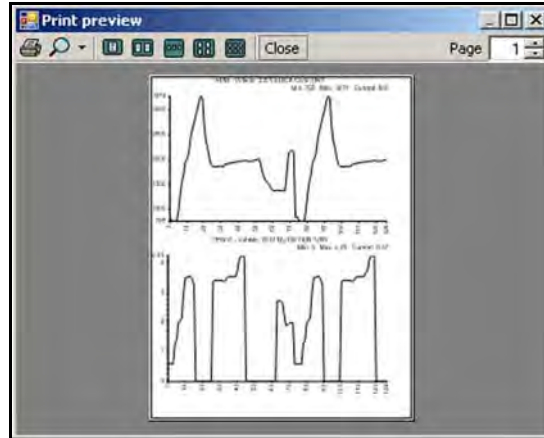

Figure 4-10 Sample print preview window
- b. If Graph(s) Print Preview was selected, a preview window opens. Click on the printer icon (Figure 4-10) to send the file to the printer.